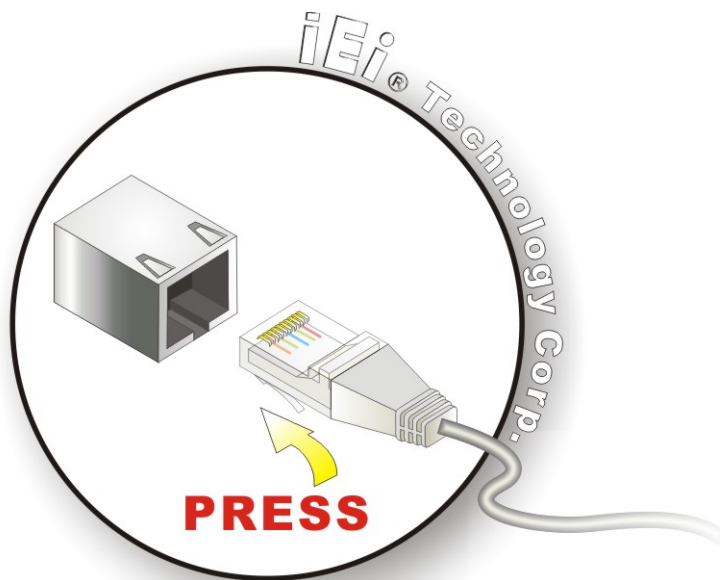

Figure 3-20: LAN Connection
- Step 2:** **Align the connectors.** Align the RJ-45 connector on the LAN cable with one of the RJ-45 connectors on the UPC-V312-D525. See **Figure 3-20**.